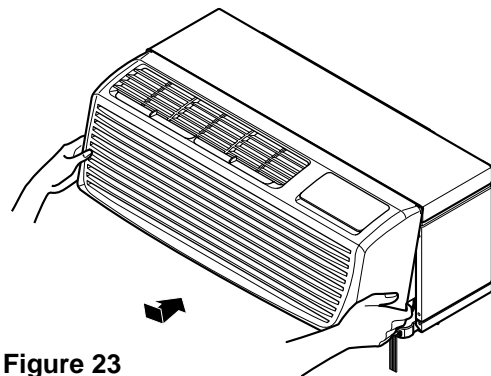

Figure 23
4. Reinstall the front grille by hooking the top over the unit top, then pushing it in at the bottom. (See Figure 23)